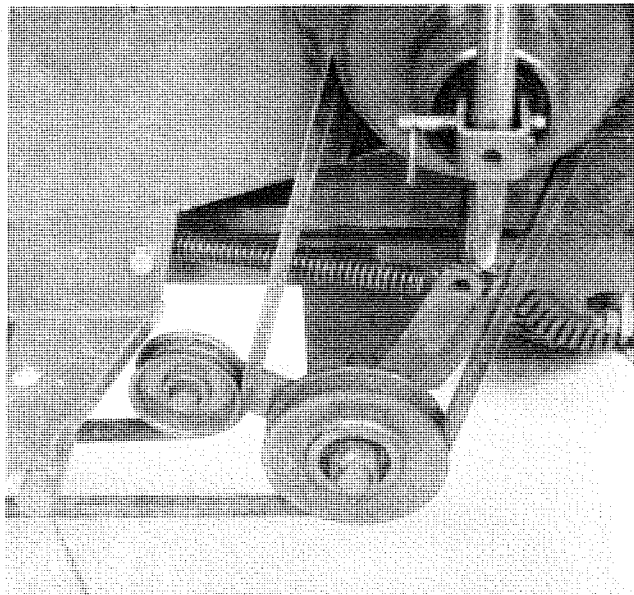

FIGURE 3
Refer to Fig. 3 and remove the $\frac{5}{16}$ -18 x $\frac{1}{2}$ bolt that holds the foot rest to the belt guard and replace it with a $\frac{5}{16}$ -18 x 1 bolt, item 85. Place a $\frac{5}{16}$ -18 Esco nut on the end of the bolt leaving room to hook the idler spring over the bolt between the nut and the belt guard.
Route the belt over the front idlers as shown in Fig. 3, with the belt in the largest diameter engine pulley groove.